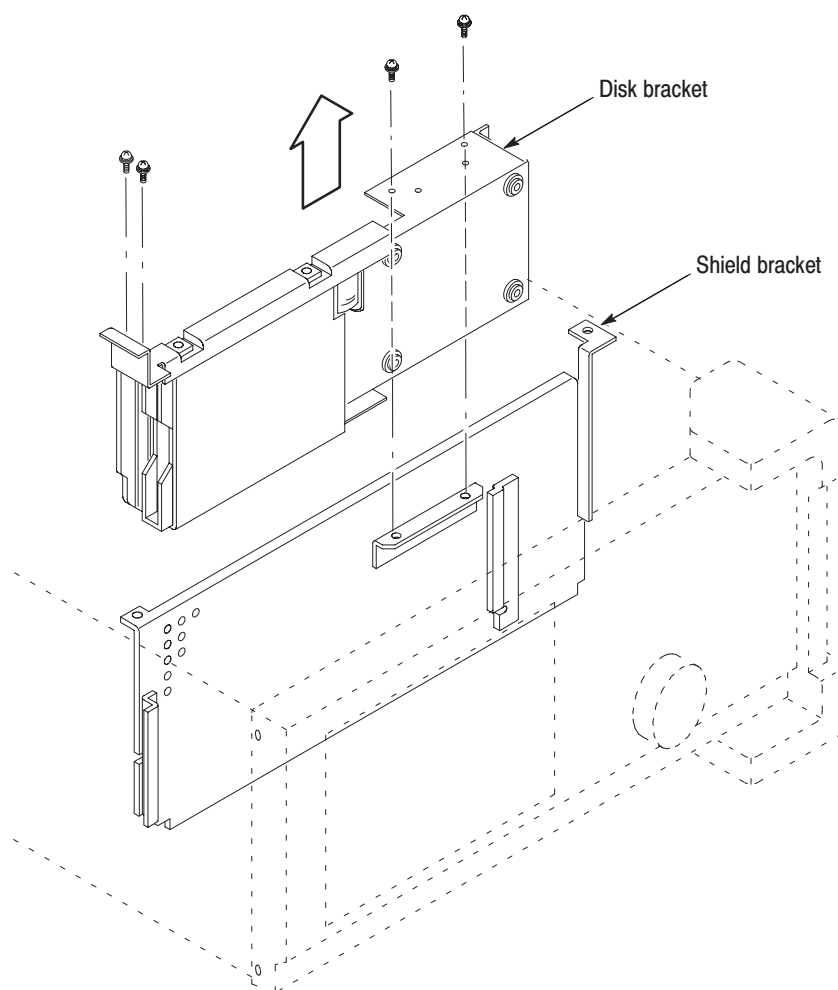

Figure 9: Disk unit removal
2. Remove the disk unit. See Figure 9.